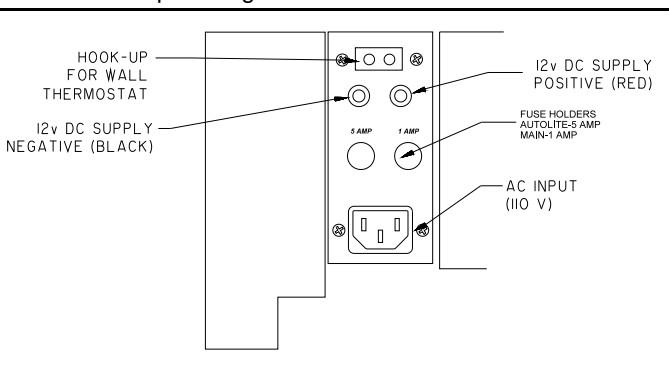

Figure 7 Rear Connection Panel
The following is a step by step procedure for installing the optional wall thermostat. Note connection terminals on left side of unit at rear (**Figure 7,8**). Use 18/2 thermostat wire for the installation.
- b. Remove factory jump wire and hook up thermostat wires to terminals (**Figure 7,8**).
- c. Remove factory jump wire and hook up thermostat wires to terminals (**Figure 7,8**).